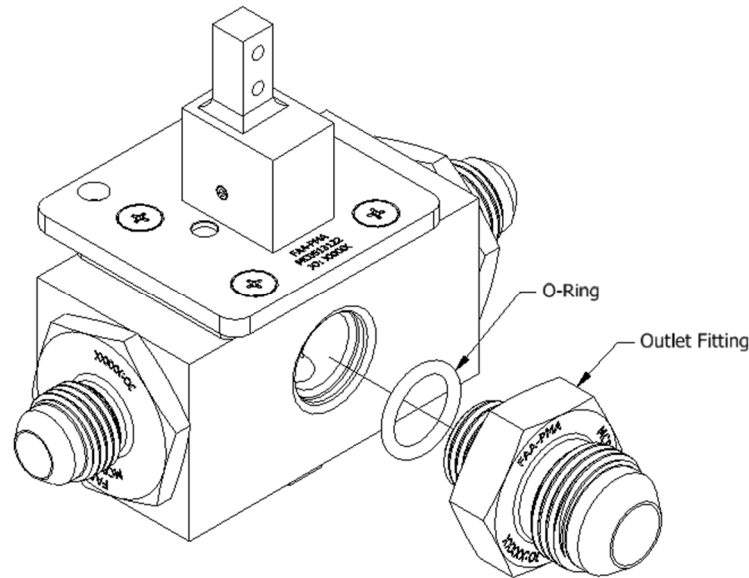

Figure 2: MC0513120 series Fuel Selector Valve w/ Outlet Fitting and O-ring
All fuel valves will require one (1) new outlet fitting and one (1) new outlet O-ring. (See Figure 2). These components are part of the relevant McFarlane service kit.